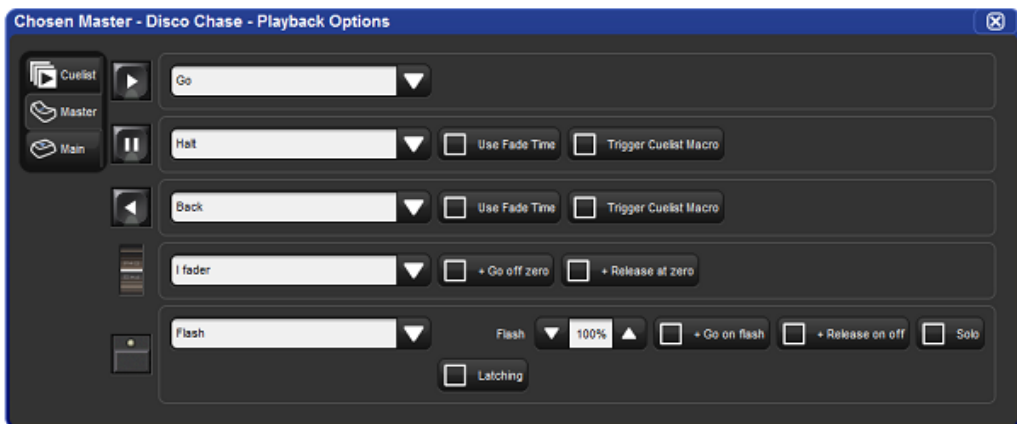
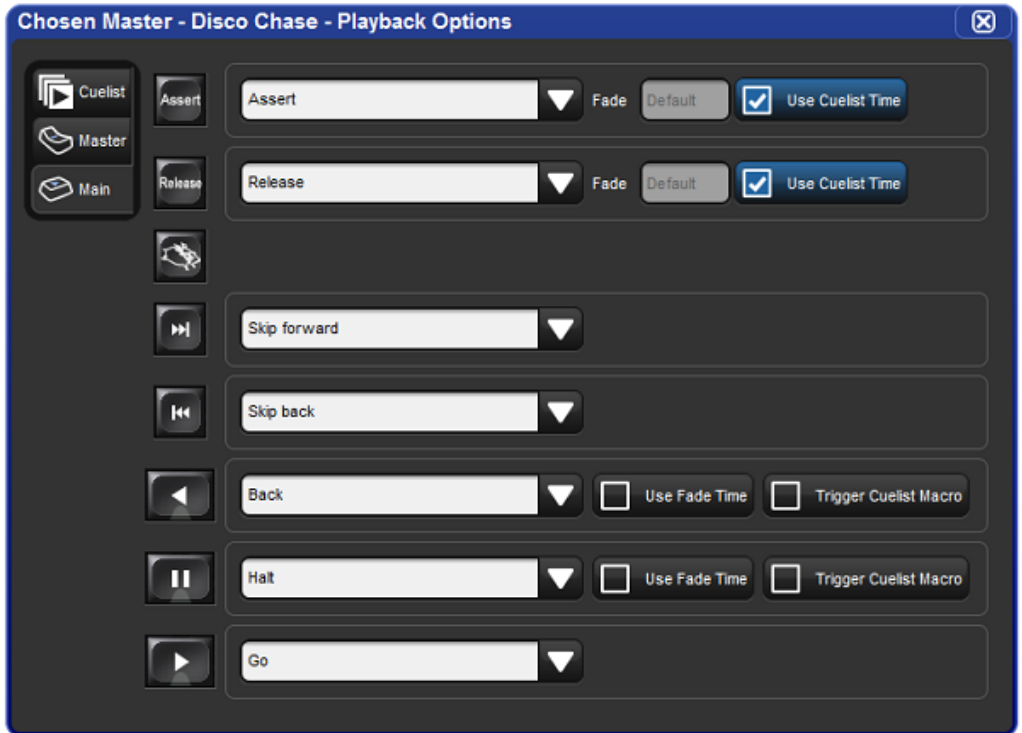

Figure 17.11. The Master pane of the Cuelist Options window
Figure 17.12. The Main Controls pane of the CueList Options window
3. Under Controls, select the Master or Main Controls pane; see *Figure 17.11*, "The Master pane of the Cuelist Options window" and *Figure 17.12*, "The Main Controls pane of the Cuelist Options window".